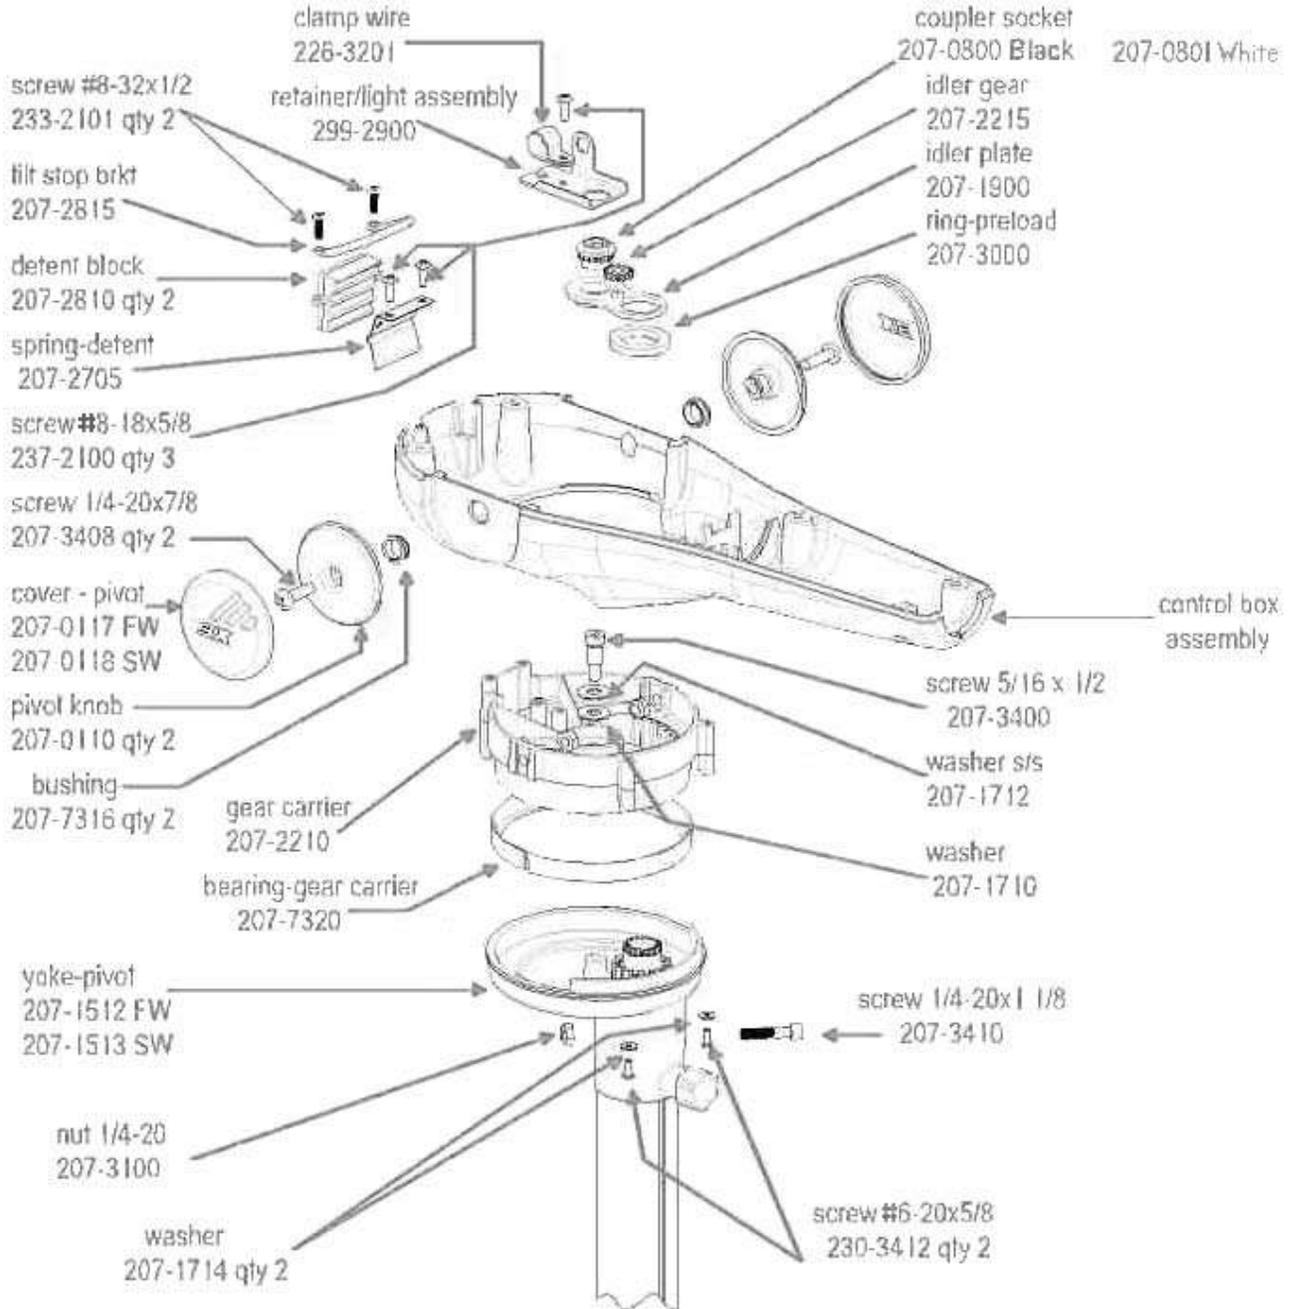

Fig. 4
- Step 5.** Once again, prior to further disassembly, note how the 3X motor wires are routed and held in position by the wire clamp located on the coupler socket retainer / indicator light bracket assembly P/N 2992900. (see Fig. 4, page 17-3) Also note how the directional indicator light wires are twisted and wire tied to the motor wire to prevent the indicator light wires getting in the circular rack and pinion steering gear mechanism.
- C. After removing the retainer / light assembly, remove the coupler socket, idler gear, idler plate, and preload ring (P/Ns 2070800/2070801, 2072215, 2071900, and 2073000). (see Fig. 4)
- Step 6.** Remove the two P/N 2332101 #8-32 x 1/2" tilt stop bracket / detent block retaining screws, then remove -the P/N 2072815 bracket and P/N 2072810 detent block. (see Fig. 4, page 17-3)
- Step 7.** Remove the two soft plastic pivot knob covers (P/N 2070117 or 2070118) to expose the two 1/4-20 x 7/8" Phillips head screws (P/N 2073408) that hold the pivot knob and control box assembly on the gear carrier (P/N 2072210) / pivot yoke (P/N 2071512 or 2072513) assembly. (see Fig. 4, page 17-3)
- A.** Removing the two P/N 2073408 screws (these two screws go in to two nyloc nuts located inside the gear carrier) will allow the control box assembly, pivot knobs, and bushings to be separated from the gear carrier and yoke pivot assembly. (see Fig. 4, page 17-3)
- Step 8.** With the control box assembly removed, unscrew the 5/16" x 1/2" socket head, shoulder shank cap screw (P/N 2073400) that is located in the center of the gear carrier (P/N 2072210). (A 5-32" allen wrench / driver is required.) (see Fig. 4, page 17-3)
- A.** Remove the cap screw along with the washers, then remove the two P/N 2303412 #6-20 x 5/8" Phillips head screws and P/N 2071714 washers that serve to guide/retain the gear carrier on the pivot yoke. (see Fig. 4, page 17-3)
Step 7. Re-install the control box with bushing and pivot knobs on to the gear carrier pivot yoke assembly. (see Fig. 4, page 17-3)